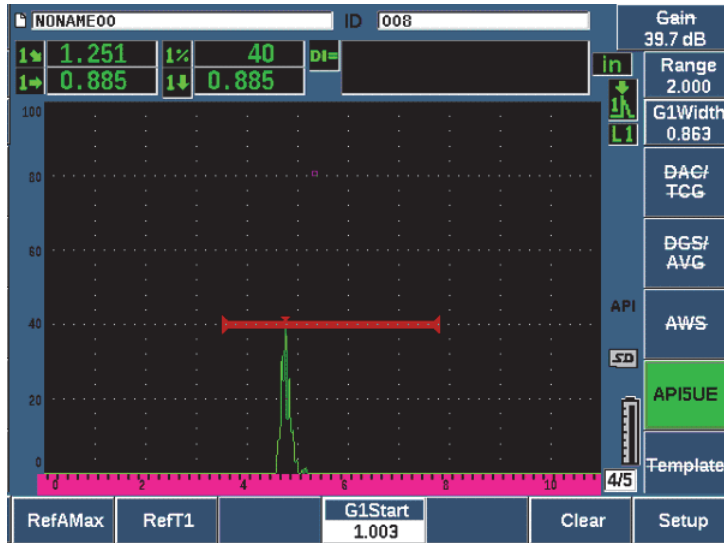

Figure 11-26 Storing the T_1 point
8. Press **RefT1** (P2) to collect the 6 dB drop position of the leading peak and assign this value as T_1 (see Figure 11-26 on page 275).